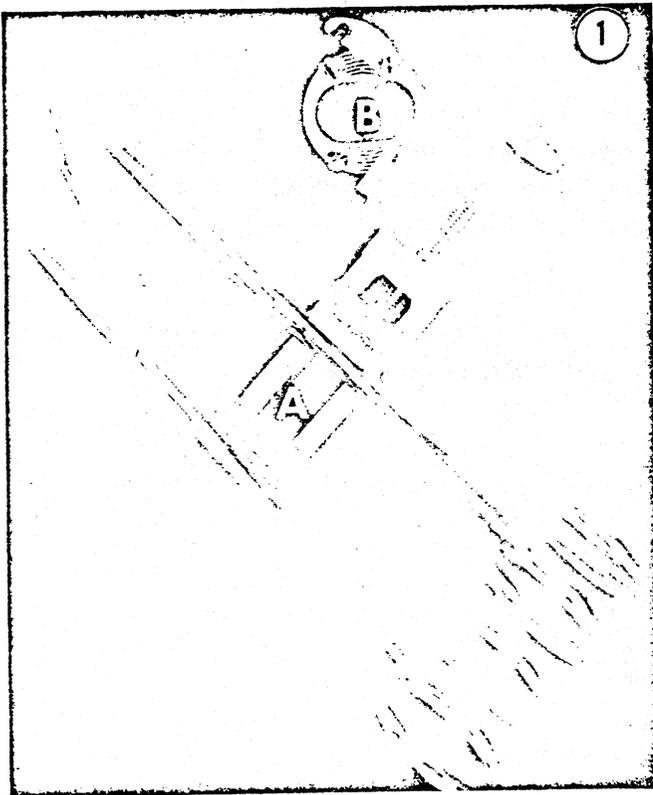
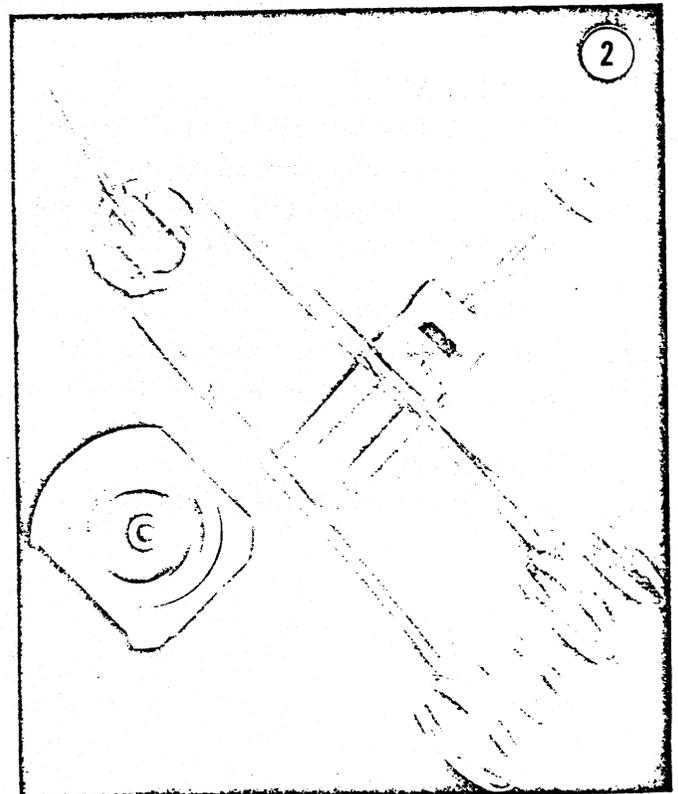
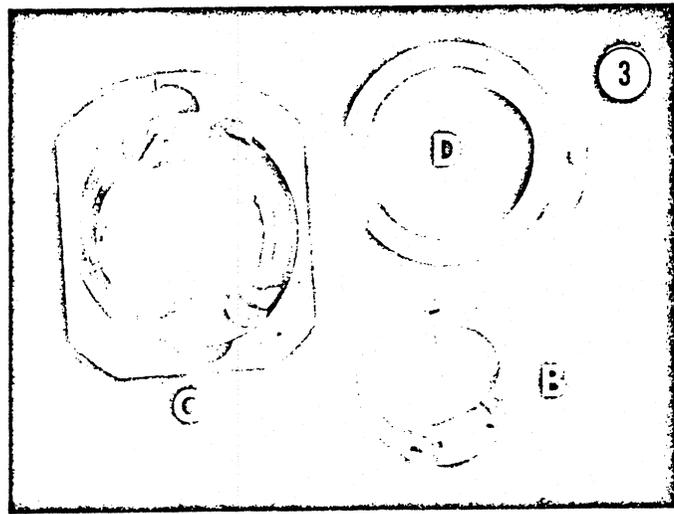

Fig. 1 Simulation of extended tissue (arrow) held in the transfer device (A) prior to insertion in the clamping device (B).
Fig. 2 Tissue secured in the clamping device (arrow) prior to insertion into the SEM specimen holder (C).
Fig. 3. Clamping device (B), spacer (D) holder prior to placement in the JEOL 50A specimen holder (C).
A special clamping device (Fig. 1, 2) has been built to hold under tension biological specimens during processing and observation. The design of the holder permits the samples to be carried through fixation, dehydration, critical point drying, metal coating and observation in the SEM while in the original extended position. The clamping device measures 1" diameter x 1/2" high, with two spring-loaded, serrated pivoting clamps (Fig. 1). The device fits into a 1-1/4" O.D. spacer for use with the 37mm specimen holder (Fig. 2) on the JEOL 50A SEM; three of them can fit into the bomb chamber of a Denton critical point (CP) dryer. Dimensions of the clamping device can be modified to fit other CP dryers and specimen holders of other scanning electron microscopes.
Specimens which have been experimentally extended on any type of tensile instrument can be transferred to the clamping holder by a specially designed device (Fig. 1, 2) which clamps onto the extended specimen for maintaining tension during the transfer to the clamping holder. The transfer holder consists of two hemostats: one silver-soldered to a fixed position on a support (Fig. 1); the other mounted on a movable base, positioned relative to the support by an adjustable
screw. The hemostats can be separated from 1/4" to 1-1/4". The transfer device clamps onto extended specimens (Fig. 1) thereby maintaining the proper tension during the transfer of the tissue to the clamping device (Fig. 2). The clamping device can hold the tissue during processing as previously mentioned prior to placing it in the SEM specimen holder (Fig. 3).